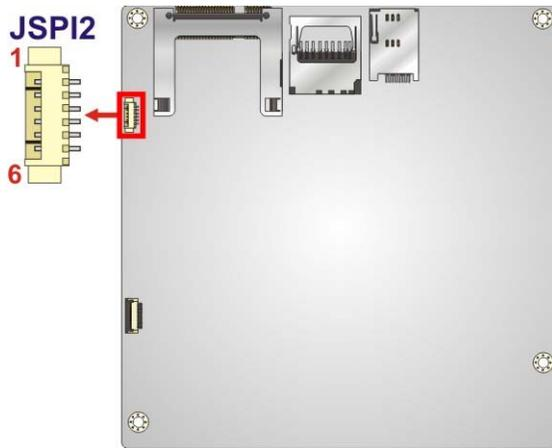

Figure 3-31: EC SPI Flash Connector Location
3.2.29 SPI Flash Connector (EC)
- CN Location:** See **Figure 3-31**